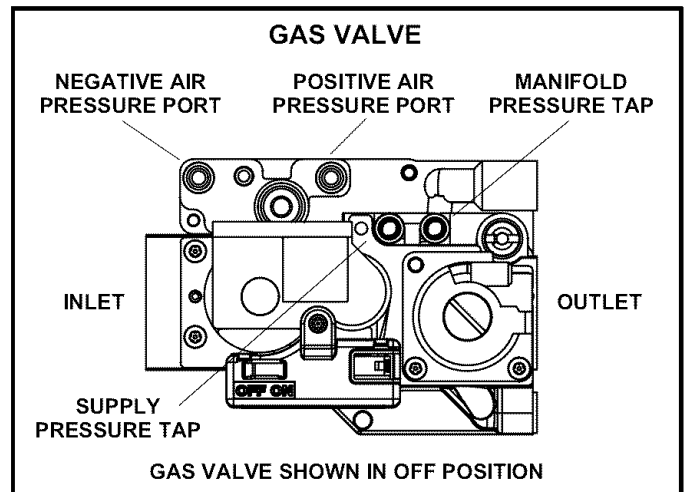

FIGURE 44
#### Gas Valve Operation (Figure 44)
- 6 - Move the gas valve switch to the **OFF** position. See figure 44.
- 8 - Move gas valve switch to the **ON** position. See figure 44. Do not force.